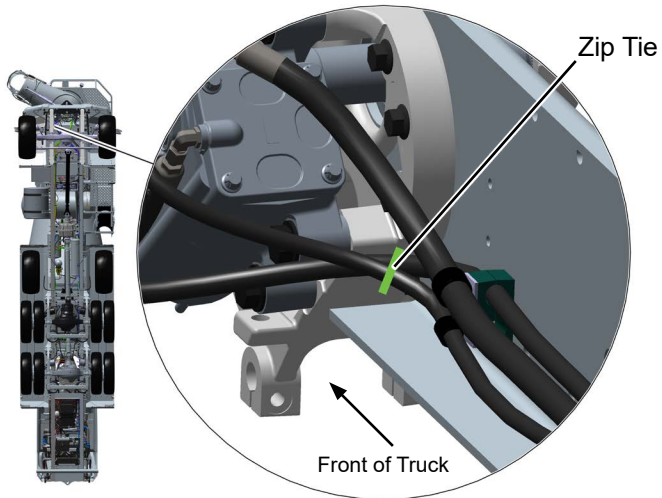

Figure 5
15. Add zip tie to hoses #3043 and #3104 as required to keep hydraulic hoses from contacting steering gear. See Figure 5 for zip tie location.